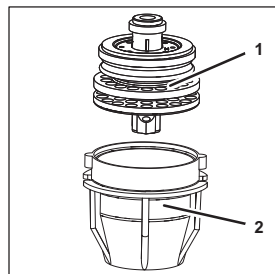

Fig. 27
6. Insert the baffle (Fig. 27/1) into the outlet nozzle (Fig. 27/2).